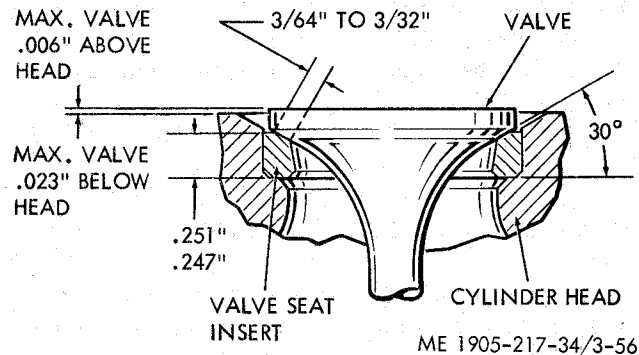

Figure 3-56. Relationship between exhaust valve, insert, and cylinder head.
- (6) The eccentric valve seat grinder set, tool J 8165, used to recondition or grind the valve seat inserts consists of:
- (7) Grind the inserts as follows:
- (c) Grind the top surface of the insert with the 15 ° wheel to narrow the width of the seat to the dimensions shown in figure 3-56. Adjust the 30 ° face of the insert, relative to the center of the valve face, with the 15 ° and 60 ° grinding wheels.
(8) The maximum allowable limits the exhaust valve should protrude beyond the cylinder head (when the valve is closed) for the valve seat inserts is shown in figure 3-56. Grinding will reduce the thickness of the valve seat insert, which will allow the valve to recede into the head. These maximum allowable limits are also shown and if the grinding operations reduce the valve seat thickness so that the valve recedes beyond these limits, the valve seat insert must be replaced.
(9) After the grinding has been completed, clean the valve seat insert thoroughly with fuel oil and blow it dry with compressed air. Set the dial indicator J 8165-2 in position and rotate it to determine the concentricity of each valve seat insert relative to the valve guide. Total runout should not exceed .002 inch. If a runout of more than .002 inch is indicated, check for a bent valve guide before regrinding the insert.
(10) When a valve seat insert runout within the desired limits is obtained, determine the position of the contact area between the valve and the valve seat insert in the following manner:
After the valves have been installed, make sure that none of the valve heads protrude more than the limits shown in figure 3-56 above the surface of the cylinder head when the valves are fully closed.